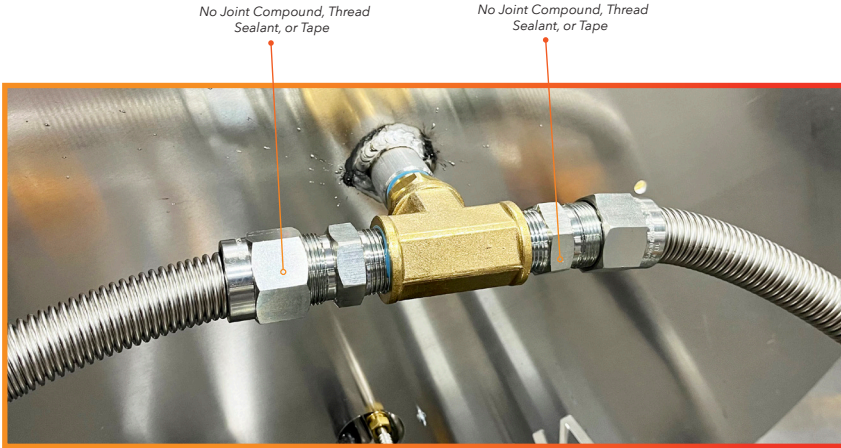

Figure 20: Connecting the Flex Lines
- 7.0 WITHOUT ANY THREAD SEALANT, take the female flared ends of the flex lines attached to the valve assembly from Step 4 and attach to the male flared end of each of the flared fittings extending from the  $\frac{3}{4}$ " Tee. Tighten with a wrench to avoid leaks. **{See Figure 20}**